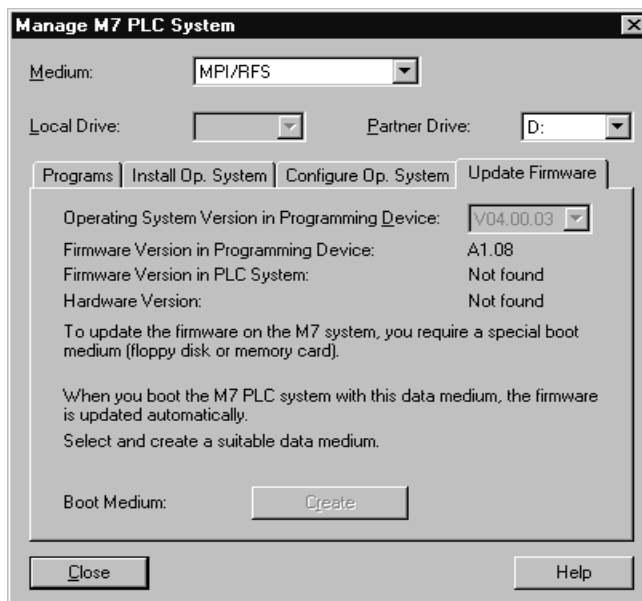

Figure 3-2 "Update Firmware" Tab
2. Call the menu command **PLC ► Manage M7 System** and open the "Update Firmware" tab (see Figure 3-2).